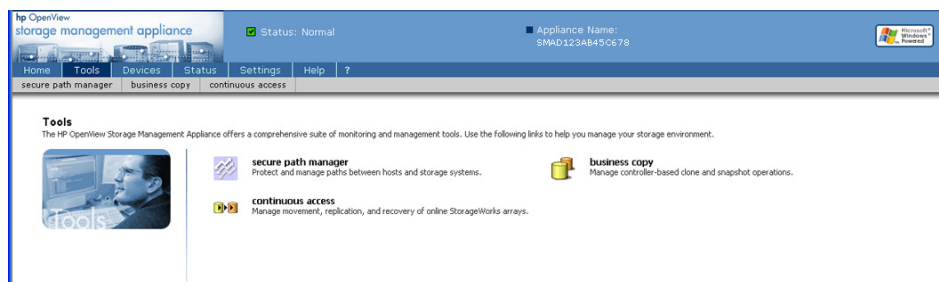

Figure 23: SMA Tools page
- Click the **Tools** icon. The Tools page is displayed (Figure 23).